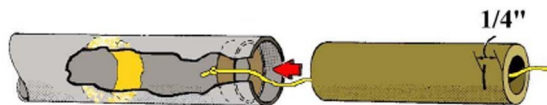

Figure 2
- **Step 3** Mark an expended engine casing 1/4" from one end. As shown in Fig. 2, apply a generous bead of glue up inside the bottom of the body tube, about 2" from the edge. Push the Kevlar thread down through the center of the ring and insert the ring into the body tube. Pull the thread down through the center of the casing, then use the casing to push the ring forward, through the glue, until the line on the casing is even with the edge of the body tube. Remove the casing immediately and allow the glue to dry.